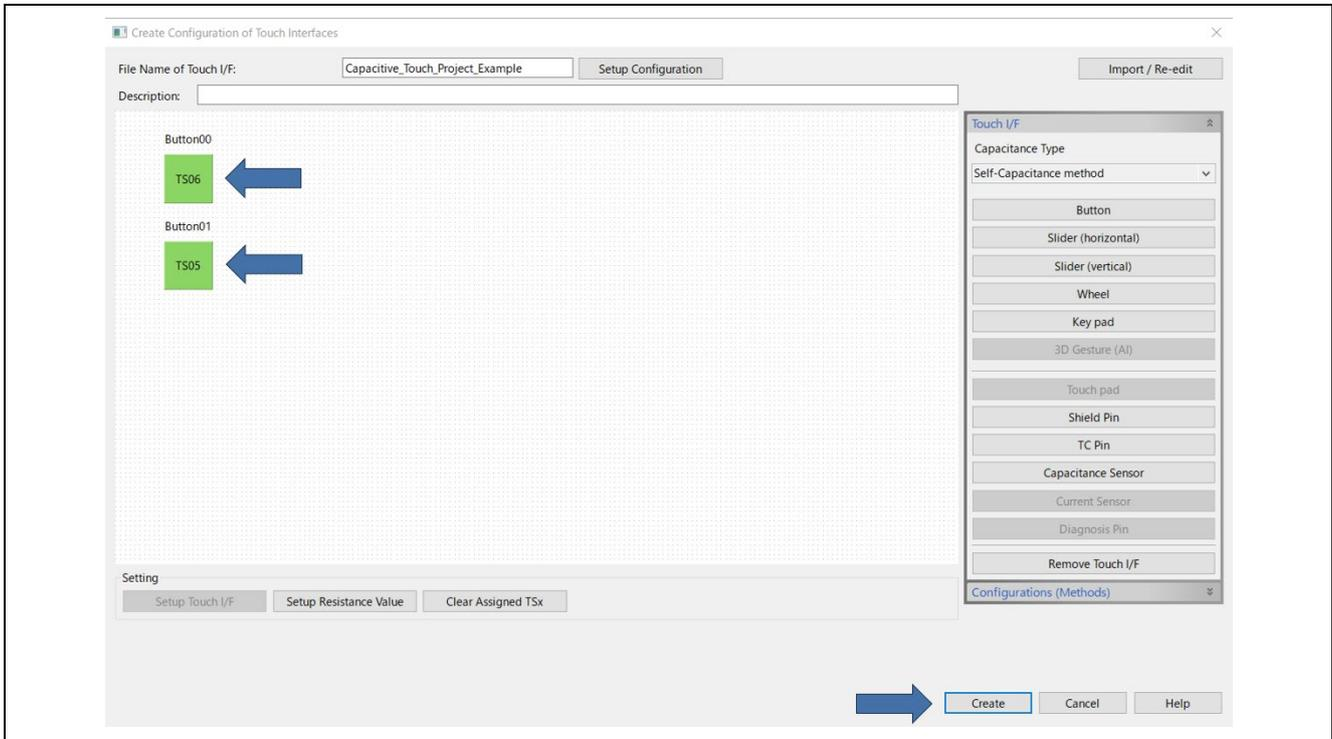

Figure 8-10 Touch Interface Configuration after the Settings are Complete
- After the settings for the elements of the touch interface are complete, the color of the electrodes changes to green as shown in Figure 8-10. Click on [Create] at this point.